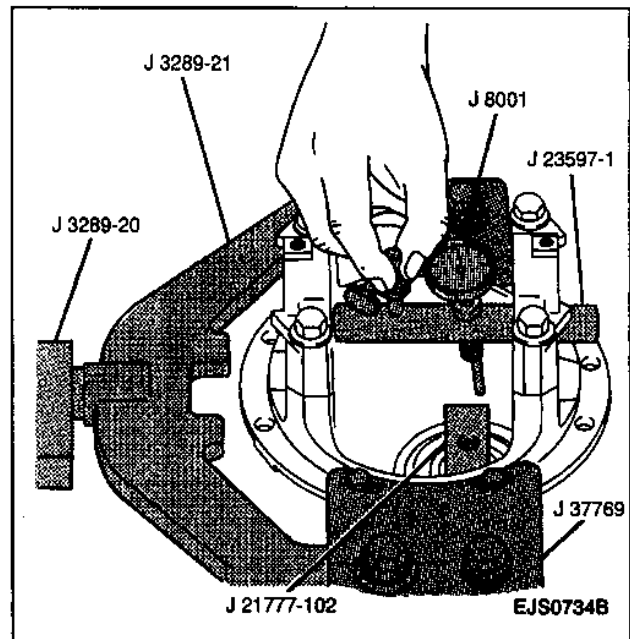

Figure 73—Installing Dial Indicator
8. Install the dial indicator spring loaded plunger extension through the J 23597-1 and position over the 97 mm level of the J 21777-102 (Figure 73).